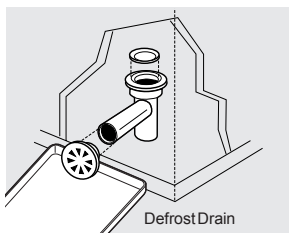
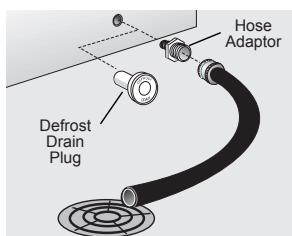
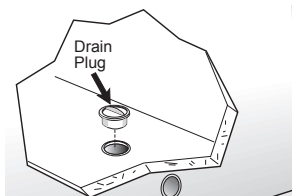

Figure 2
Figure 3
Figure 4
- **On chest models with a defrost drain**, place a shallow pan beneath the drain outlet (Figure 2). A  $\frac{1}{2}$  inch garden hose adapter can be used to drain the freezer directly into a floor drain (Figure 3). If your model is not equipped with an adapter, one can be purchased at most hardware stores. Pull out the drain plug inside the freezer, and pull off the outside defrost drain plug (Figure 4).